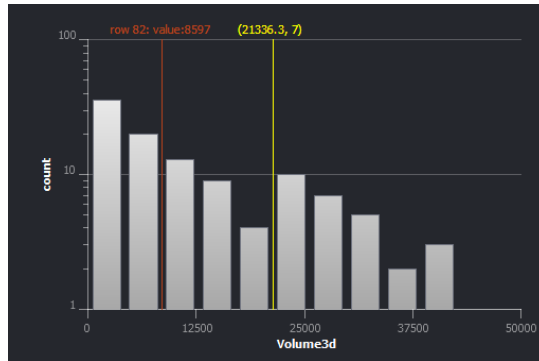

Figure 4.14: Line in the histogram corresponding to row 82
- Select a cell of the analysis lower table. The point dragger will move to the corresponding object location in the 3D view. If the histogram of one of the analysis measures is displayed, a vertical line appears that displays the position and value of the selected row, as shown on Figure 4.14.